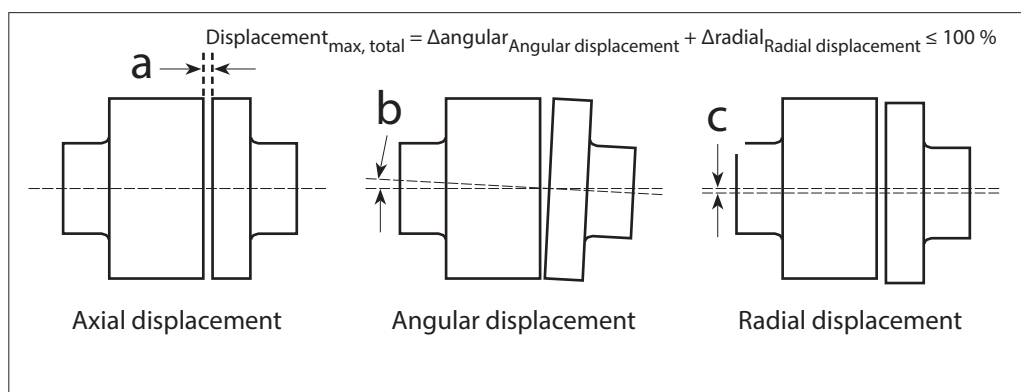

Fig. 6.2: Displacement options and maximum permitted proportional displacement value calculation
- ▶ When assembling the pump and drive, you must comply with the maximum permitted displacement values **a** (axial displacement), **b** (angular displacement) and **C** (radial displacement) as per Fig. 6.2 or Tab. 6.5